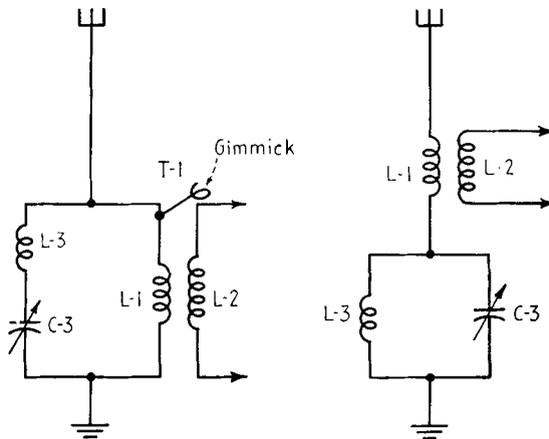

FIG. 16-7. Common wave-trap circuits.
**Troubles common to the wave-trap circuit.** The wave-trap circuit composed of *L-3* and *C-3* rarely causes service difficulties. Figure 16-7 shows the two common connections for the wave trap. In either circuit, even if the wave-trap coil *L-3* should open, the receiver would continue to operate normally. There may, of course, be a tendency for the receiver to have "code" interference, a heterodyne effect, but this would occur